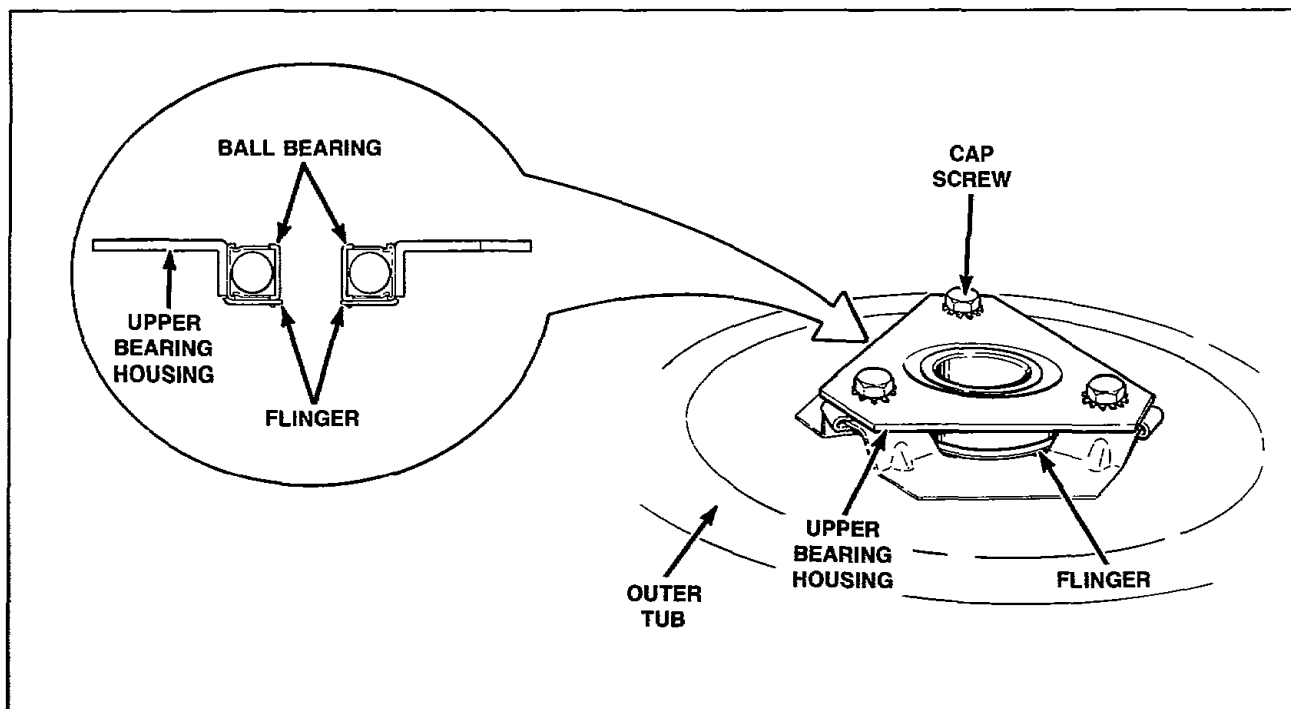

Figure 53
- c. Remove three screws holding upper bearing and housing to bottom of outer tub, *Figure 53*.
NOTE: Replace bearing and housing as an assembly, and be sure flinger is properly positioned between the outer tub and bearing assembly, *Figure 53*.